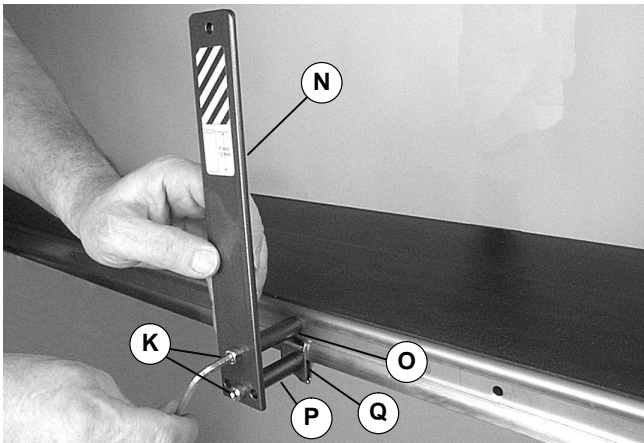

Figure 10
- Loosely attach support bracket (N of Figure 10) with screw (K) and spacer (O) in upper hole of bracket and tapped hole in conveyor.